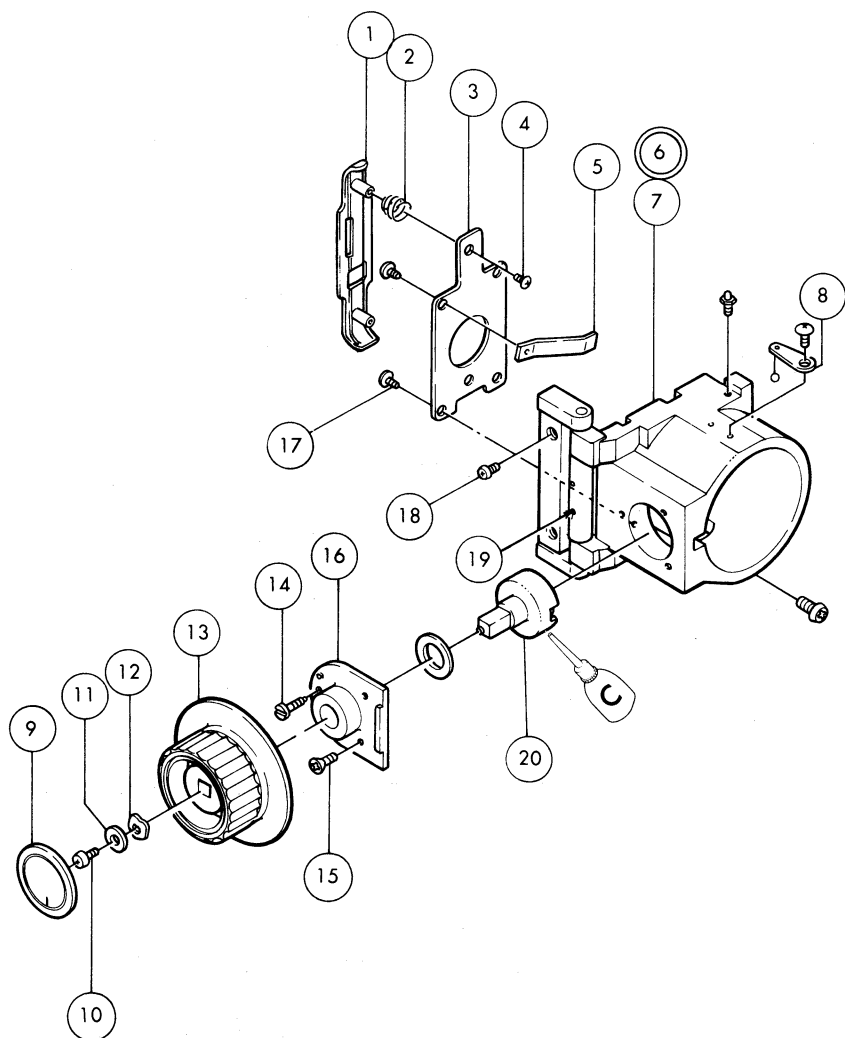

Fig 11
A. Disassembly Refer to Fig.11.
1. Remove (18)x2 and detach ((6)) from the machine frame.
2. Remove other parts, referring to Fig.11. Note that the (9) is glued with "Cemedine #575".
3. Attach other parts, referring to Fig.11.